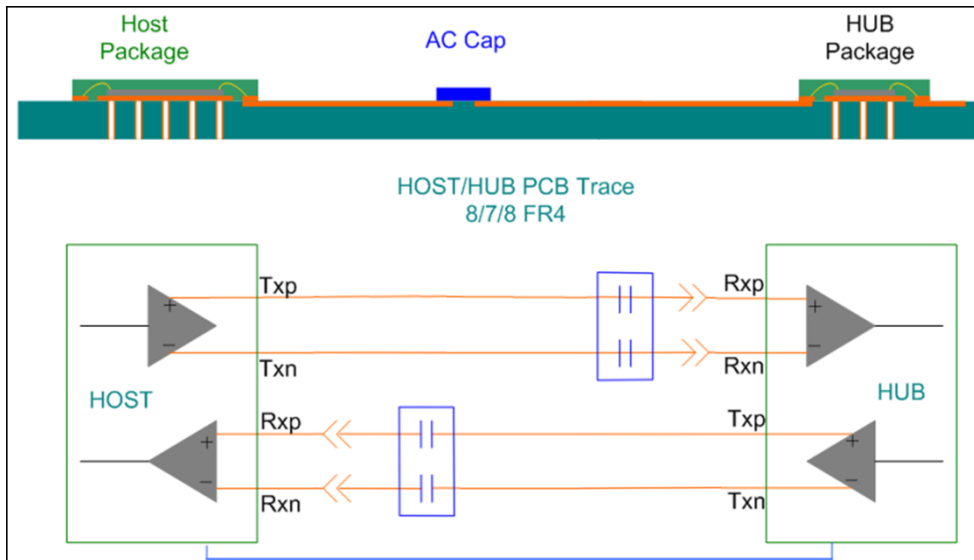

**Figure 3.3 Channel Model without a Cable**
**Fig. 3.3** shows the channel topology (without a cable). The insertion loss of 8/7/8 FR4 trace is around 0.296dB per inch (2.5G signal & PCB trace w/o via). Based on the previous case description, the max insertion loss is 20dB (including PCB trace, PCB via and connector). However, as described in the first section, the performance is determined by channel loss, reflection, crosstalk, and the most of reflection and crosstalk are caused by connector design. So, keeping 9 -inch and 6-inch FR4 trace length can gain much margin.